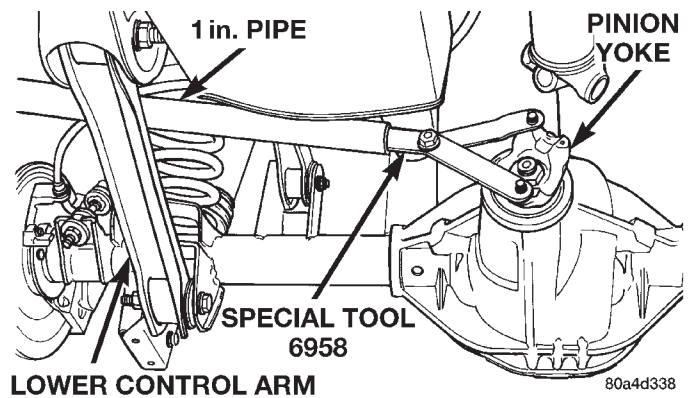

Fig. 44 Pinion Yoke Holder
(1) Remove differential assembly from axle housing.
(2) Mark pinion yoke and propeller shaft for installation alignment.
(3) Disconnect propeller shaft from pinion yoke. Using suitable wire, tie propeller shaft to underbody.
(4) Using Holder 6958 to hold yoke and a short length of 1 in. pipe, remove the pinion yoke nut and washer (Fig. 44).